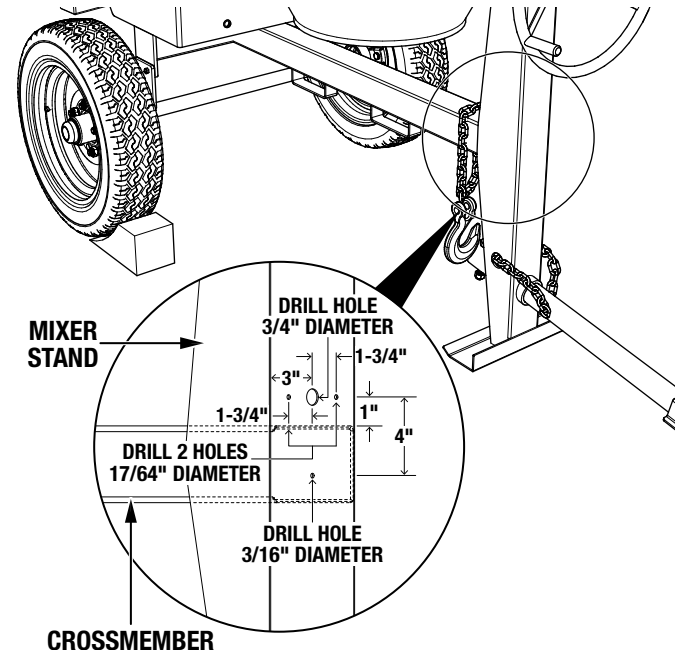

Figure 10. Drill Side Marker Light Bracket Holes
1. Mark and drill a 3/4-inch hole into the front of the mixer stand as shown in Figure 10.
2. Mark and drill two 17/64-inch holes into the front of the mixer stand as shown in Figure 10.
3. Mark and drill a 3/16-inch hole into the front of the mixer stand as shown in Figure 10.